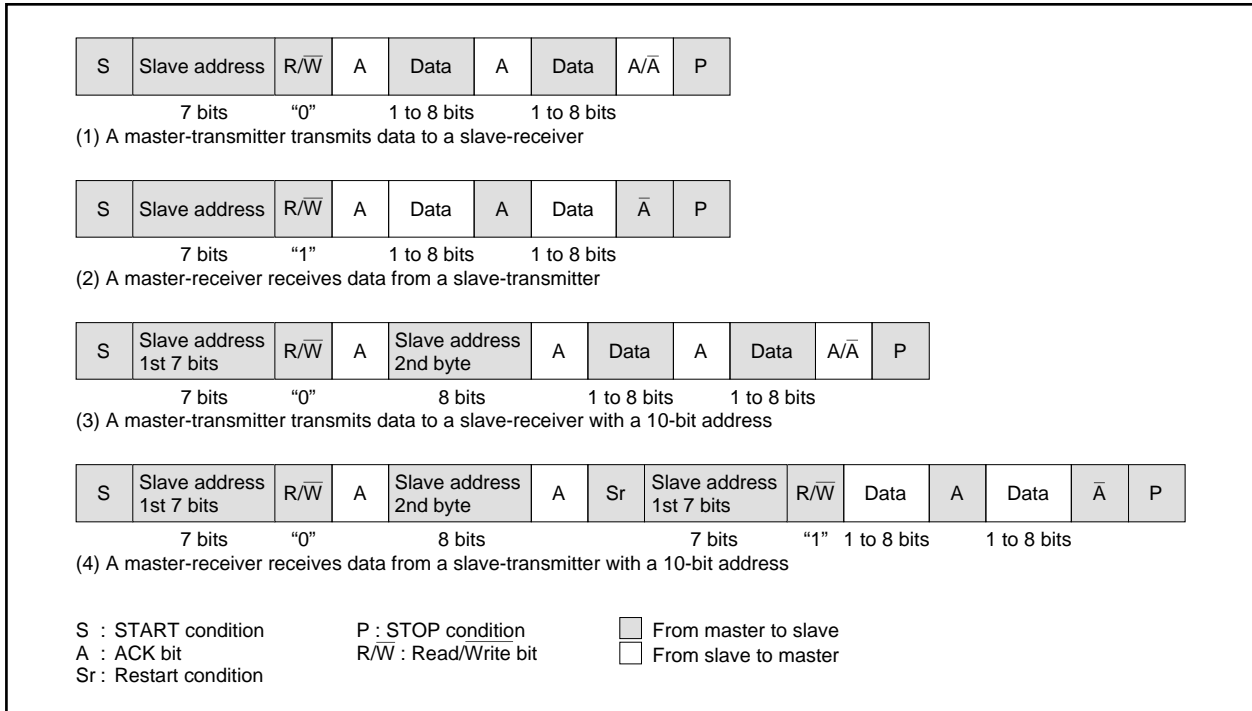

Fig. 52. Address Data Communication Format
① 7-bit addressing format
To meet the 7-bit addressing format, set the 10BIT SAD bit of the I2C control register (address 00F916) to "0." The first 7-bit address data transmitted from the master is compared with the high-order 7-bit slave address stored in the I2C address register (address 00F716). At the time of this comparison, address comparison of the RBW bit of the I2C address register (address 00F716) is not made. For the data transmission format when the 7-bit addressing format is selected, refer to Figure 52, (1) and (2).
② 10-bit addressing format
When the first-byte address data matches the slave address, the AAS bit of the I2C status register (address 00F816) is set to "1." After the second-byte address data is stored into the I2C data shift register (address 00F616), make an address comparison between the second-byte data and the slave address by software. When the address data of the 2nd bytes matches the slave address, set the RBW bit of the I2C address register (address 00F716) to "1" by software. This processing can match the 7-bit slave address and R/W data, which are received after a RESTART condition is detected, with the value of the I2C address register (address 00F716). For the data transmission format when the 10-bit addressing format is selected, refer to Figure 52, (3) and (4).
**(11) Example of Master Transmission**